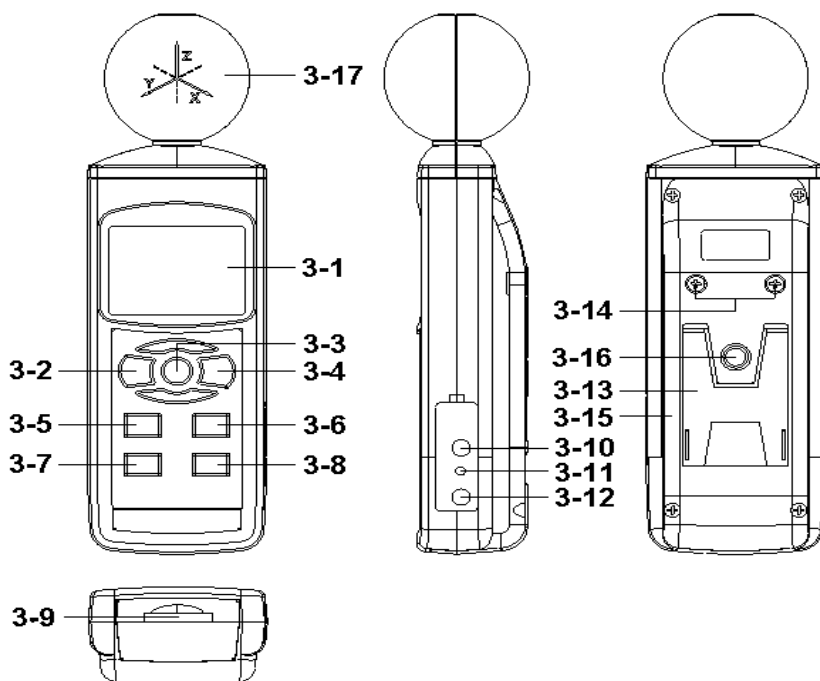

Fig. 1
(3-2, Fig. 1) > 1.5 seconds continuously.
** Pressing the " Power Button " (3-2, Fig. 1)
pressing and hold the " Function Button "(3-6, Fig. 1),
pressing and hold the " UNIT Button "(3-5, Fig. 1),
During the measurement, press the " Hold Button " (3-3, Fig. 1) once will hold the measured value & the " HOLD " symbole will be light, Press the " Hold Button " once again will release the data hold function , (3-20, Fig. 1) HOLD symbole will be quenched
- 1) The data record function records the maximum and minimum readings. Press the " REC Button " (3-4, Fig.1) once to start the Data Record function and there will be a " REC " symbol indicator " will be light.
- a) Press the " REC Button " (3-4, Fig. 1) once, the " REC and MAX Symbol indicator will be light , and the maximum value will appear on the display.
- b) Press the " REC Button " (3-4, Fig. 1) again, the " REC and MIN " Symbol indicator will be light , and the minimum value will appear on the display.
Prepare a " SD memory card " (1 G to 16 G, optional), insert the SD card into the " SD card socket " (3-9, Fig. 1). The front panel of the SD card should face against the the down case.
Press the " LOG Button (3-8, Fig. 1) > 1.5 seconds continuously, the LCD will show the text of " LOGGER " indicator and flashing per second, at the same time the measuring data along the time information will be saved into the memory circuit.
During execute the Datalogger function, if press the " LOG Button " (3-8, Fig. 1) once will pause the Datalogger function (stop to save the measuring data into the memory circuit temporarily). In the same time the " LOGGER " symbol will stop flashing.
If press the " LOG Button " (3-8, Fig. 1) once again will execute the Datalogger again, the " LOGGER " symbol will flashing.
During execute the Datalogger function, press the " LOG Button (3-8, Fig. 1) > 1.5 seconds continuously again will finish the Datalogger function, the " LOGGER " text will be disappeared and finish the Datalogger function.
Press the " LOG Button (3-8, Fig. 1)>1.5 second, the LCD will show the indecator " LOGGER " and " Position no. " symbol then press the " LOG Button " (3-8, Fig. 1) once , the " LOGGER " symbol will flashing once and Beeper will sound once at the same time the measuring data along the time information will be saved into the memory circuit .
During execute the Manual Datalogger, it can use the " ▲ Button " (3-5, Fig. 1) or " ▼ Button " (3-6, Fig. 1) to set the measuring position (1 to 99, for example room 1 to room 99) to identify the measurement location , the Top Display will show P x (x = 1 to 99).
During execute the Datalogger function, press the " LOG Button (3-8, Fig. 1) > 1.5 seconds continuously again will finish the Datalooger function, the Position no. " PXX " will be disappeared and finish the Datalogger function.
During the normal measurement (not execute the Datalogger), If press " Time " (3-7, Fig. 1) once , the LCD display will present the time information of Year/Month/Date ,Hour/ Minute/Second and the Sampling time information in sequence.